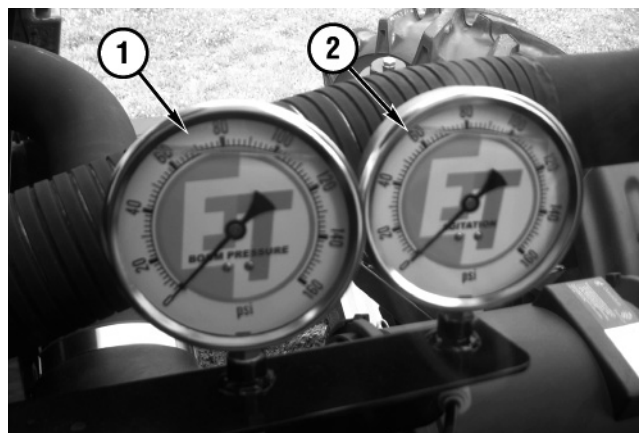

Figure 5-66
- Remove the 0.250 in. (6.35 mm) hose to both the agitation gauge (**Figure 5-66, 2**) and the boom pressure gauge (**Figure 5-66, 1**).